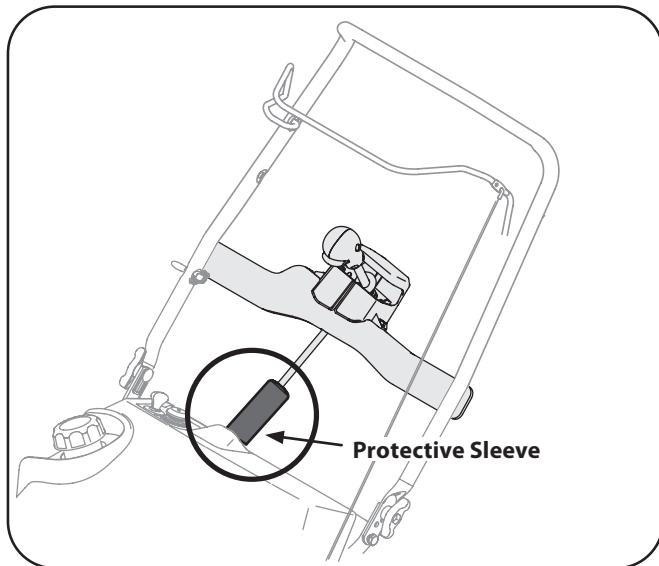

Figure 3-9
- Slide the protective sleeve over the universal joint. See Fig. 3-9.